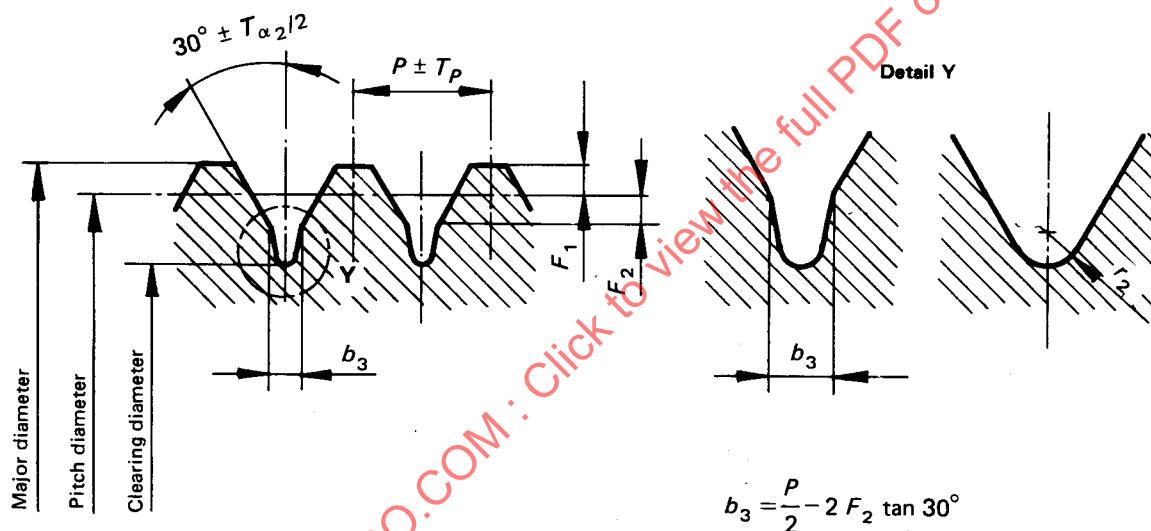

FIGURE 7 — Profile with truncated flanks
10.2 Profiles with truncated flanks (See figures 7 and 8)
The following gauges have profiles in accordance with figure 7 :
The profile with truncated flanks according to figure 7 shall be made for screw threads up to $P = 1$ mm with a radius of maximum r_2 (see table 1) which contacts tangentially the straight part of the flank and for screw threads with $P = 1,25$ mm and larger with a clearance groove of b_3 (see table 2). The form of the clearance groove is left to the discretion of the manufacturer.
TABLE 2 — Values for profiles with truncated flanks (See figures 7 and 8)